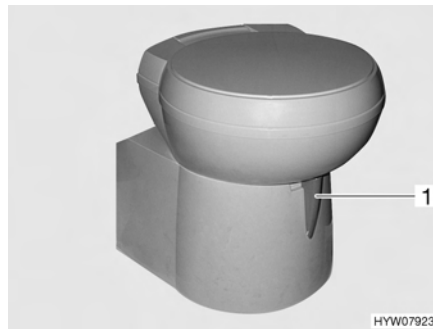

Fig. 93 Thetford toilet bowl, swivelling
- Before flushing open the sliding trap of the Thetford toilet. To do this, push the slide lever (Fig. 93,1) in an anticlockwise direction.
- Push the slide lever (Fig. 93,1) in a clockwise direction. The sliding trap is closed.